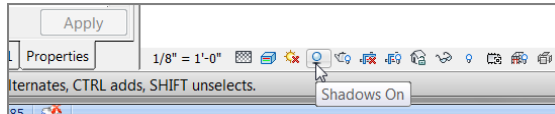

FIGURE 1.43: Shadows create a nice effect, but at the expense of RAM.
3. Again on the View Control bar, select the Shadows On icon and turn on shadows, as shown in Figure 1.43.